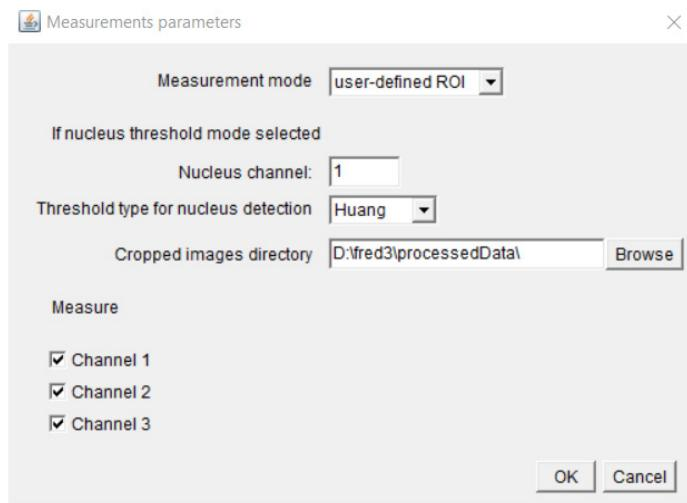
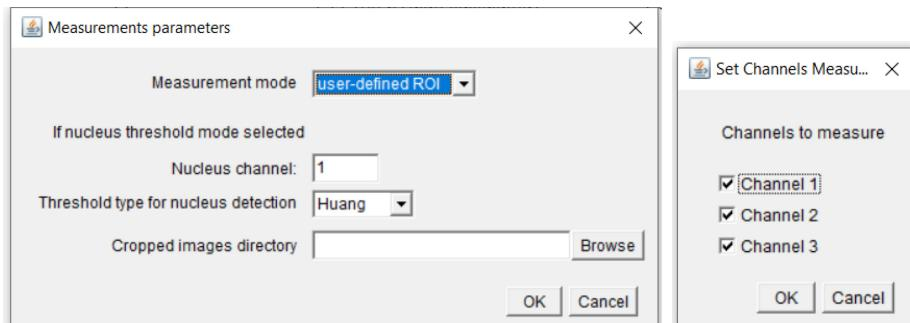
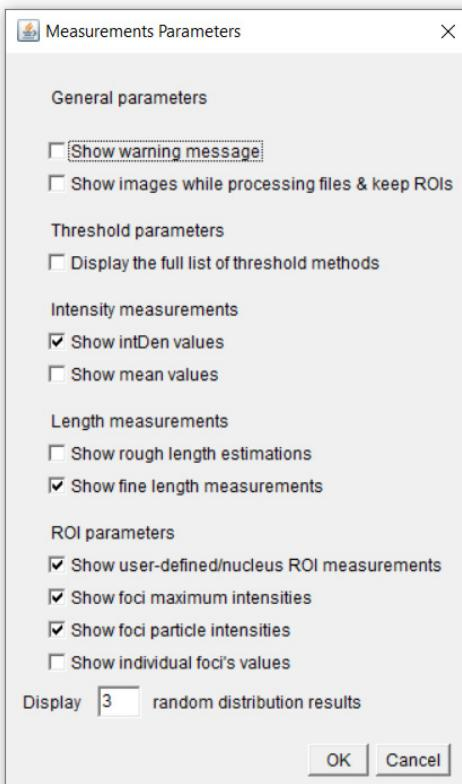

Figure 2.1. The Measure Global intensities menu (when some previous routine was used).
Figure 2.2. The Measure Global intensities menu (if no input folder was previously set).
Figure 2.4. The general parameters window.
The “measure global intensities” algorithm can be used to measure whole intensities. Depending on whether the “Start cropping images” or any other analysis routine was used beforehand, the menu will appear as in figure 2.1 or 2.2. Whenever the input folder (ie. where the original full frame images are saved) was set or some processedData folder (ie. where the stage-sorted cropped images were generated) was previously set using the same instance of the bar, then the menu appears as in figure 2.1. If the cropped image directory was not found, then click the browse button (fig 2.2), select the directory and click OK. The first found image will be opened and the user will be prompted to select the channels to measure (fig. 2.2).
STEP1. Set the ROI that will be used for intensity measurements. If the “user-defined ROI” is selected, then the companion .roi file generated during the stage-cropping step (“start cropping images, next file to crop and lepto to diplo buttons) will be used. If this file is not found, some error message is displayed. The other possibility is to use some intensity threshold. The macro refers to “nucleus” threshold as most of the time, the channel used for the threshold is based on some nucleus staining. This can be however used for any other staining. If using this “nucleus threshold” mode, set the channel used for threshold (the first channel is channel 1), then select the adequate threshold algorithm. A broader range of automatic thresholds methods can be displayed using the “set measurements parameters” button (see fig. 2.4). Set these parameters as in figure 2.1 or 2.2 left. Figure 2.1 will be displayed if the stage-sorted images location was known before starting the routine, otherwise a simplified figure 2.2 left is shown.
STEP2. Select the channels to be measured. If the stage-sorted images location was previously set, then the menu will appear as in fig 2.1. Select the channels to be analysed. If the stage-sorted images location was unknown or was changed (whenever the option “change images folder” was selected in menu of figure 2.1), the user is prompted to enter the number of channels (figure 2.2 middle) and then to select the channels to be measured. If the routine does not find the right number of channels, the measurement is skipped (and “not found” is displayed in the corresponding column of the intensities.xls file).
Images are not shown during the analysis. To have them displayed, use the set Measurements Parameters of the main meiosis bar. In the parameters window (fig. 2.4), select “show images while processing files” option. The default settings only display (raw) integrated densities values. It is possible to change this in the parameters window (intensity measurements).